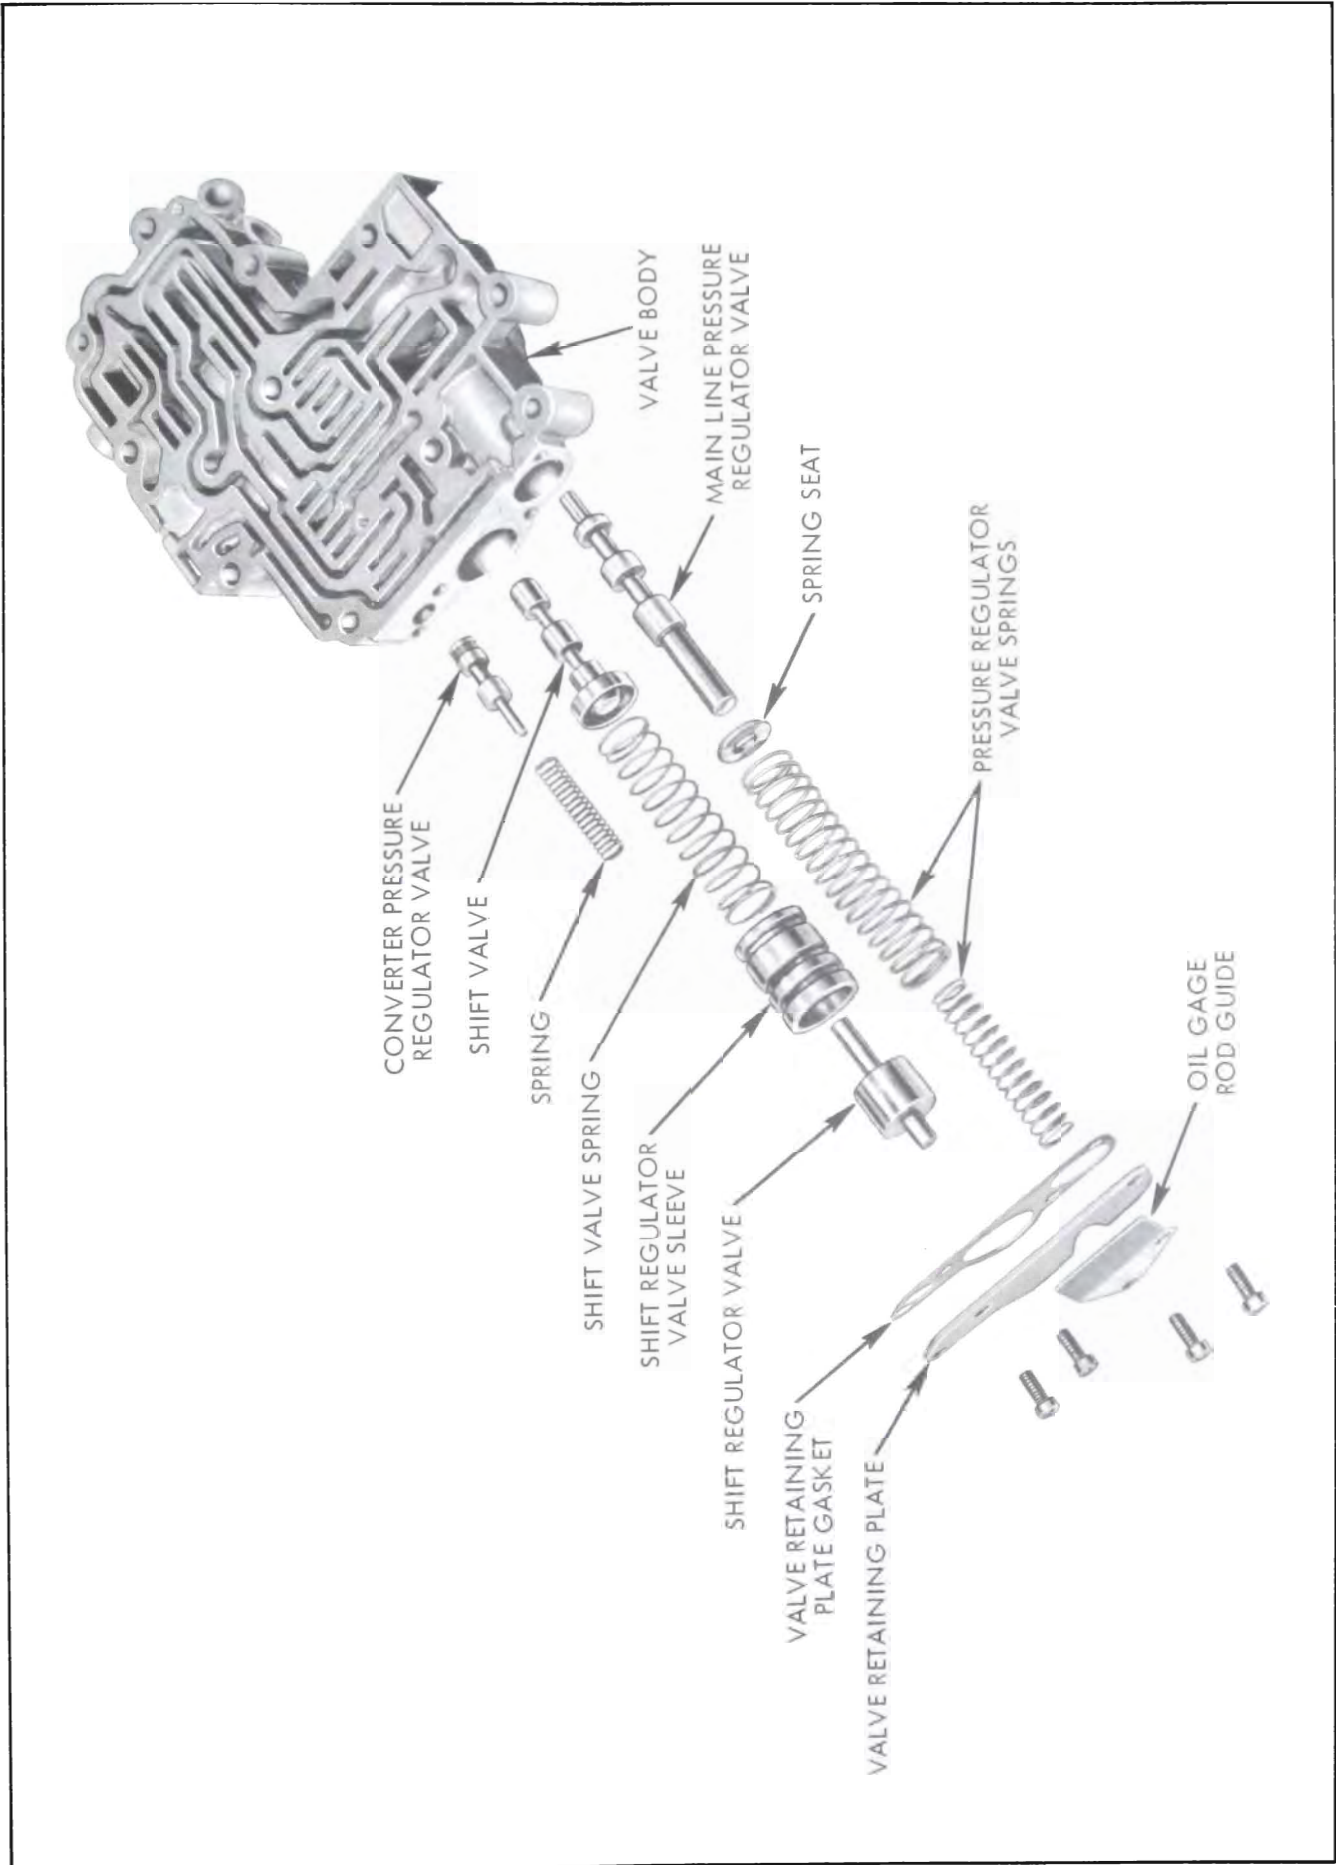

Figure 5-232
12. Tilt valve body and remove valves, sleeves and springs shown in Figure 5-232. Thoroughly clean all valves and valve body in solvent. Inspect valves and valve body for evidence of wear or damage due to foreign material or improper assembly. Be sure small holes in converter pressure regulator, governor, and throttle pressure regulator valves are clear. Be certain small hole (.032") in valve body plate is clear. Dry valve body and valves with clean air blast.
1. Begin reassembly of valve body by installing converter pressure regulator, shift, and main line pressure regulator valves, sleeves and springs as shown in Figure 5-232. Use new valve retaining plate to valve body gasket; install plate and oil gauge rod guide. Install and tighten screws.